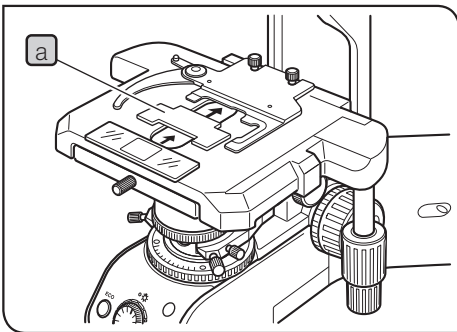

Fig.26
**2 Using the auxiliary slide holder (Fig.26)**